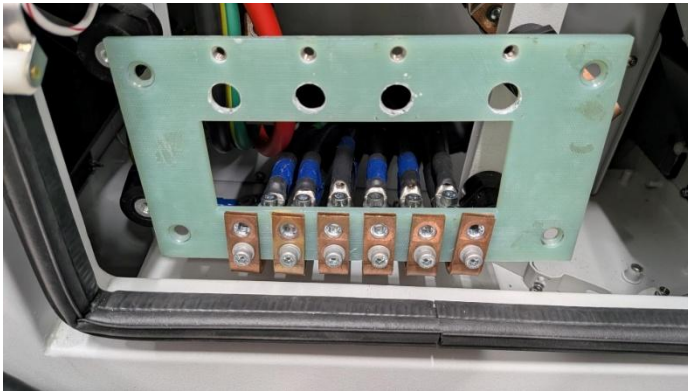

Figure 28
31. Loosely fasten the 6 lower-copper conductors to the bottom of the insulator plate (Figure 28).